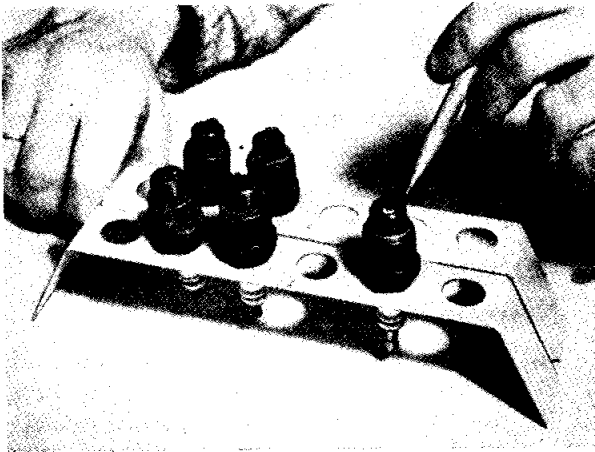

Fig. 38 Sparking Plugs in a tray ready for comparison.
- (a) When sparking plugs are removed from the engine, remove their gaskets with them. Place the plugs and gaskets in a suitable holder, identifying each plug with the cylinder number. The tray shown in Fig. 38 is a simple construction with holes drilled to admit the upper ends of the plugs. Place a new plug of the proper type beside the others to afford a comparison of relative condition of the plugs in use, to the new plug.